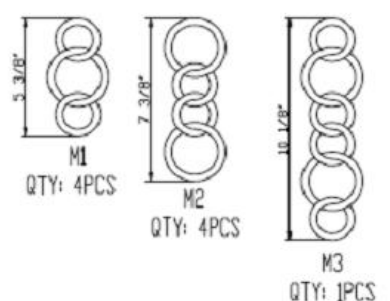

Fig.2
CONNECTION THE WIRES (Fig. 2)
- At this point, connect the electrical wires as shown in figure 2, making sure that all wire connectors are secured. If your outlet has a ground wire (green or bare copper), connect the ground wires from the hanger ball and mounting plate to it. Otherwise, connect the ground wire from the hanger ball directly to the mounting plate ground wire and secure with the wire connectors provided. After wires are connected, tuck them carefully into the ceiling junction box.